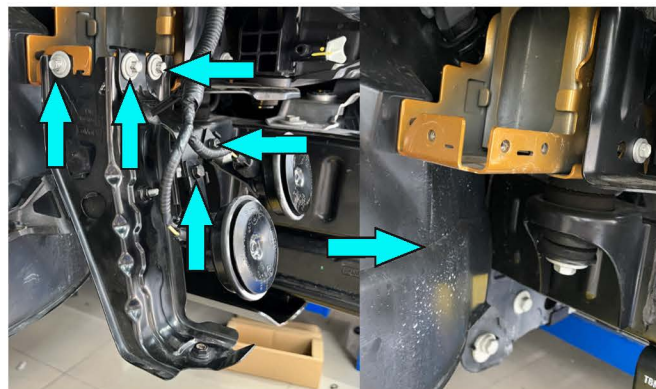

Fig.16
16. Unscrew OE bolts and remove bracket as shown in fig.16.